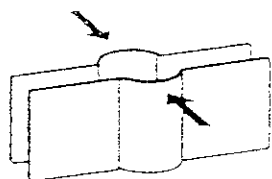

Abb. 23
- Fig. 23 Ring-shaped heater band